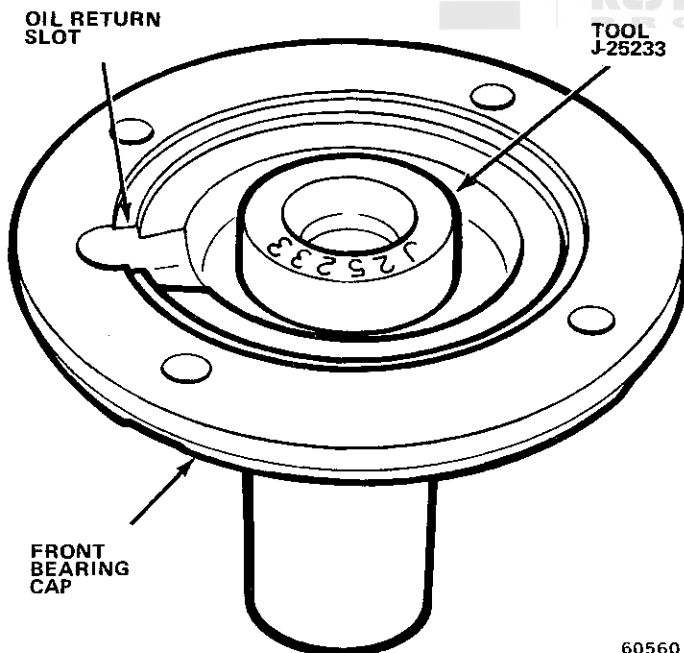

Fig. 2B-15 Front Bearing Cap Oil Seal Installation
(27) Coat bearing bore of clutch shaft with petroleum jelly and install 15 roller bearings in clutch shaft bore.
(28) Coat blocking ring surface of clutch shaft with transmission lubricant and position blocking ring on shaft.
(29) Support main shaft assembly and insert clutch shaft through front bearing bore in case. Seat main shaft pilot in clutch shaft roller bearings and tap bearing into position in case using rawhide mallet.
(30) Apply thin film of sealer to front bearing cap gasket and position gasket on case. Be sure gasket notch is aligned with oil return hole in case.
(31) Remove front bearing cap oil seal using screwdriver and install replacement oil seal using tool J-25233 (fig. 2B-15).